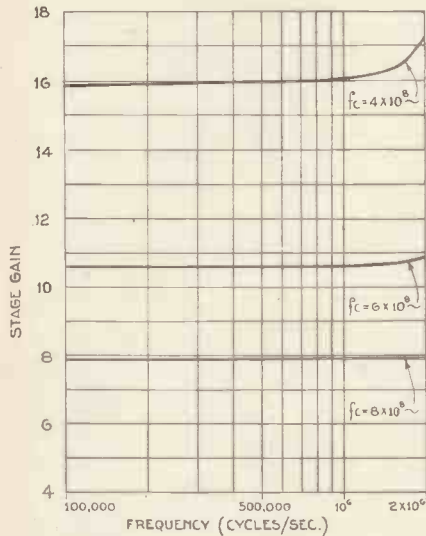
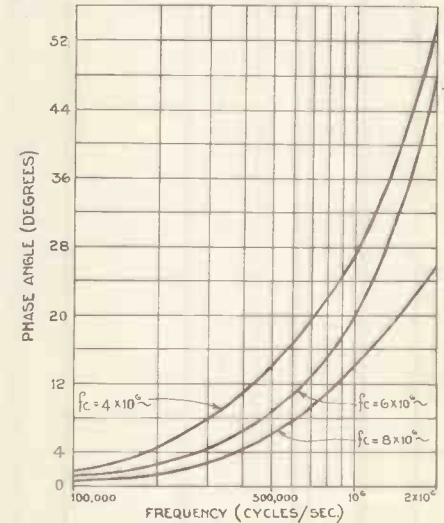

Fig. 6. Showing how stage-gain varies with frequency for different values of "cut-off" frequency.
Fig. 7.—Showing how phase angle varies with frequency for different values of "cut-off" frequency, using the "filter-coupling" method.
10.5. We do not know what the gain is at 2 megacycles without further calculation. This is rather involved and it will perhaps be more useful for present purposes merely to give the results. The middle curve of Fig. 6 shows how the amplification, under the conditions of the example just quoted, varies with frequency; it will be seen that this variation is very slight, being only 2 per cent. up at 2 megacycles compared with 100,000, below which the
the Baird nor E.M.I. companies have so far published details as to the phase angles which can be allowed at different frequencies before distortion is noticeable, but I show in Fig. 7 the phase angles, plotted against frequency, for the three cases of f_0 in Fig. 6, and according to the limit of tolerance allowed, the values of f_0 , R_1 , and hence the amplification, can be chosen.